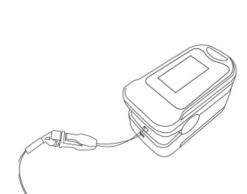

Figure 4 Mounting the hanging rope
Step 1. Put the end of the rope through the hole, as shown in Figure 4.